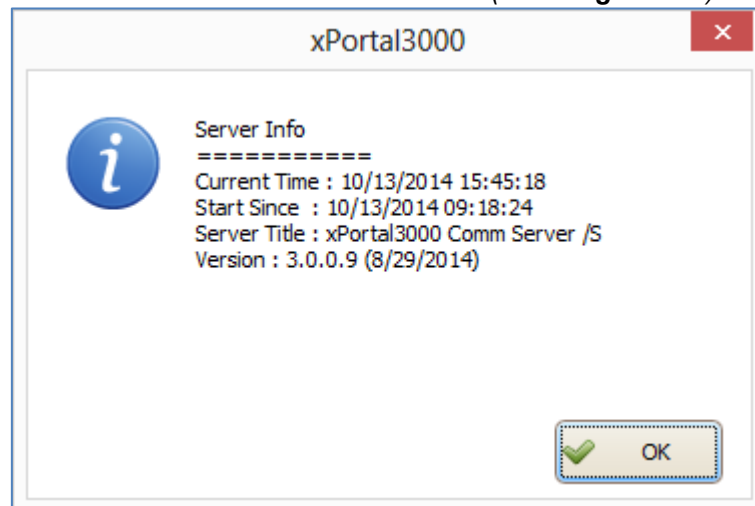

Figure 275 - Check Server Info
4. Click on Check Server Info to view the server information (Refer **Figure 275**).